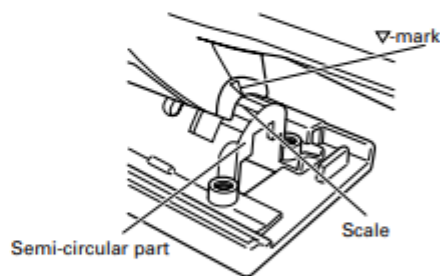

Fig. 15
(2) Align the scale (from 0 degrees to 45 degrees by 15-degree increments) of the semi-circular part of the base with the [▽] mark on the gear cover. (Fig. 15)